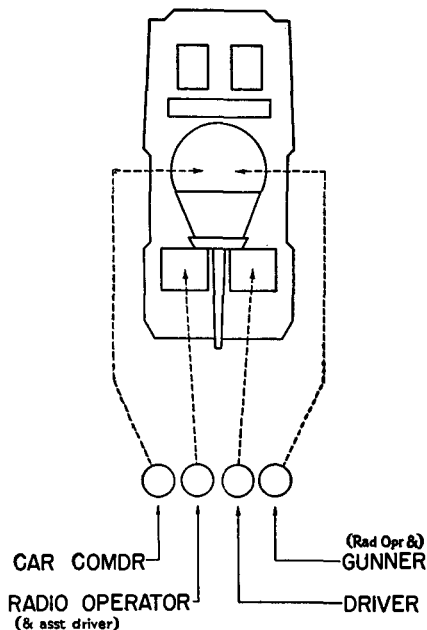

FIGURE 3.—Method of mounting.
(2) The movement may be executed by ordering any member of the crew except the gunner to fall out.
(3) The movement should be executed with snap and precision at double time.
■ 8. **TO MOUNT CREW.**—*a.* The crew, being at dismounted posts or dismounted, is mounted at the command or signal **MOUNT**. At the command or signal, crew members mount as prescribed in paragraph 1 of the appendix. (See also figs. 3 and 4.) During early stages of training, mounting should be done “by the numbers.”